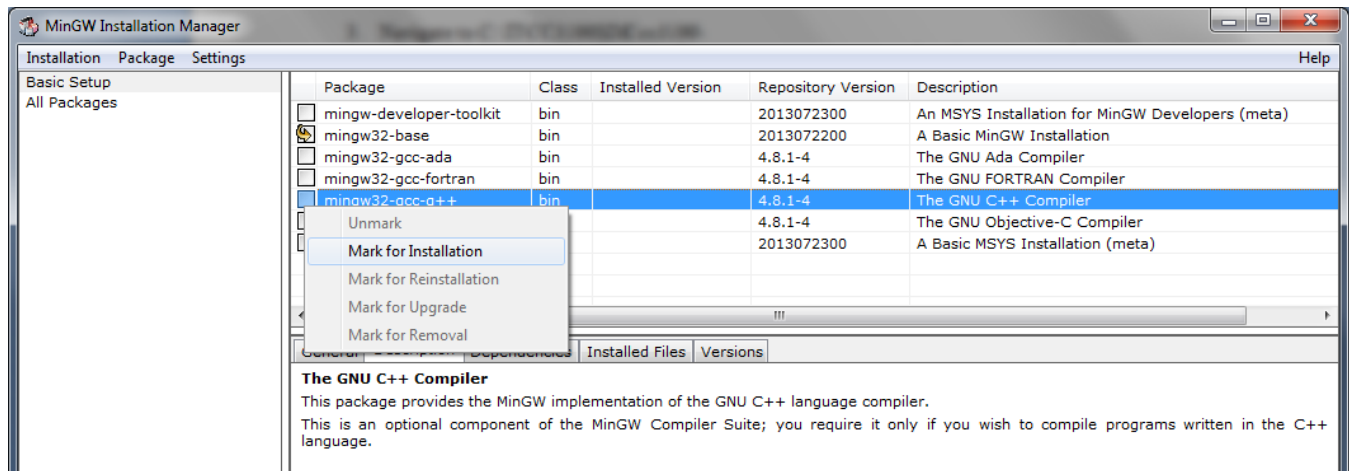

Figure 5. MinGW Installation Screen
- (b) In the MinGW Installation Screen, select packages for **mingw32-base** and **mingw32-gcc-g++** as shown in Figure 5.